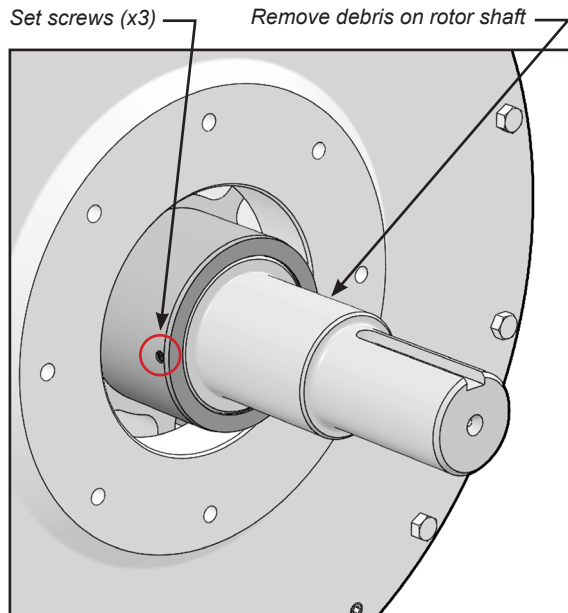

FIGURE 12
11. Remove any accumulated debris from rotor shaft using emery cloth (Figure 12).
13. Prepare for removal of bushing by fully removing the three set screws previously loosened on the bushing (Figure 12).
21. Tighten the three setscrews located on the bushing; apply loctite if readily available (Figure 12).